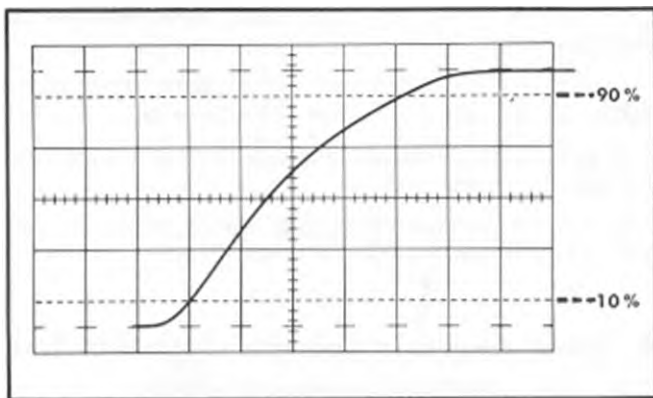

Fig. 6-15. Typical display, amplitude calibrator risetime. Indicated risetime is 0.8 microseconds.
e. Adjust the horizontal and vertical positioning controls simultaneously so that the 10% point of the rising portion of the waveform crosses an intersection of a vertical and a horizontal graticule line (see Fig. 6-15).